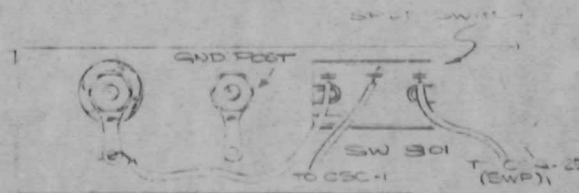

Fig. 7
- () 28. Mount the switch (from kit) in this hole, using the flat washer and the 12-sided switch nut from the kit (see Fig. 7).
- () 29. Unsolder the white wire connected to CSC-1 and resolder to the left terminal (viewed from front) of the switch mounted in the above step (see Figs. 7 and 8).
- () 30. Solder the 7 in. white wire (from kit) between CSC-1 and the center terminal of the switch (see Fig. 7 and 8).